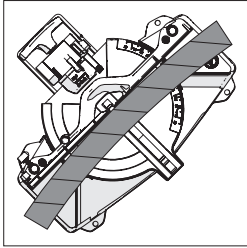

Fig. 25
**CUTTING BOWED MATERIAL (Fig. 25)**